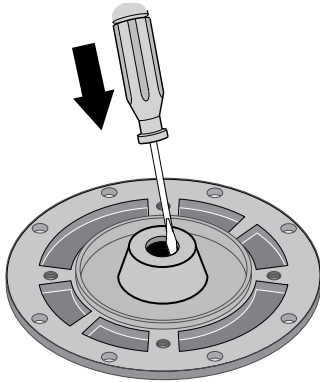

Figure 18 - Tap Out Seal
5. Place seal plate half face down on flat surface and tap out stationary half of seal (Figure 18).